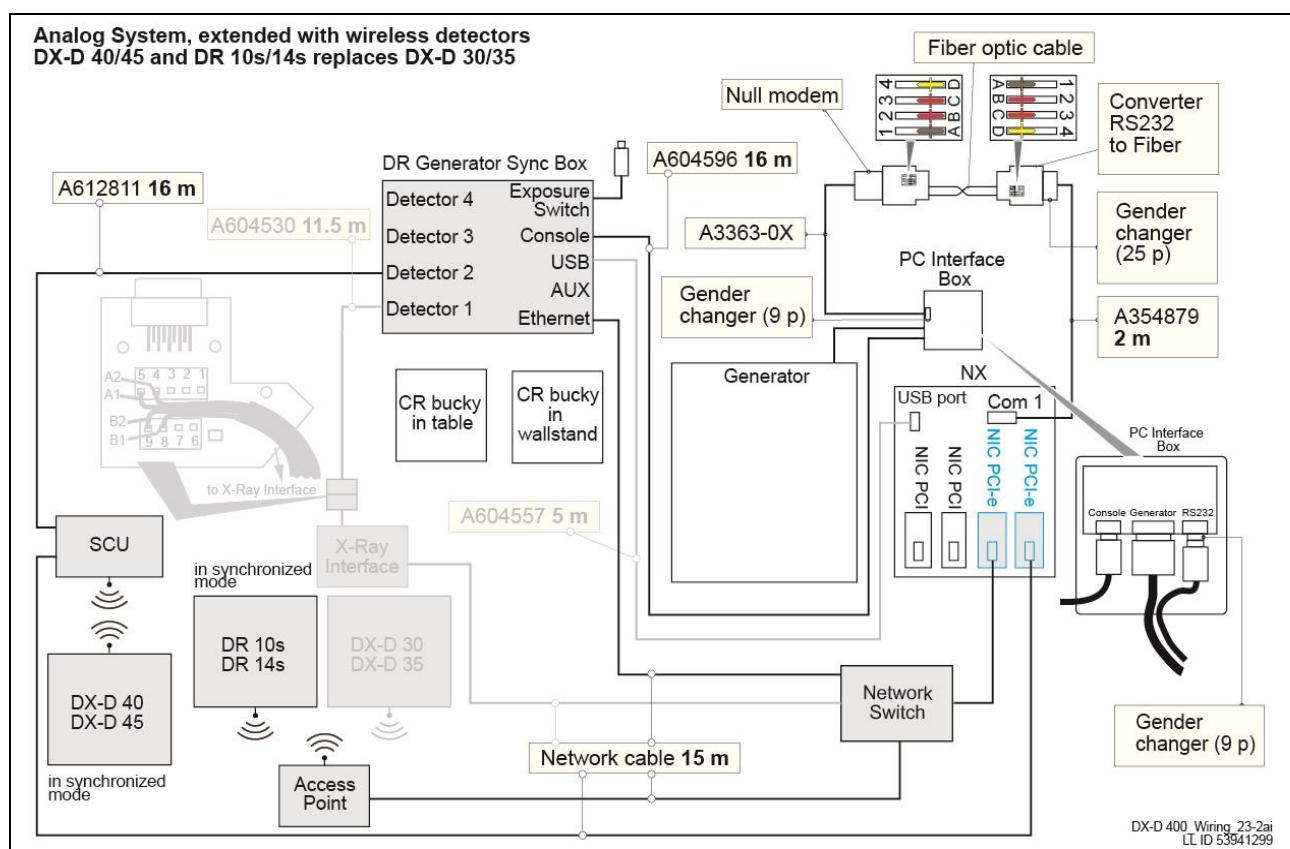
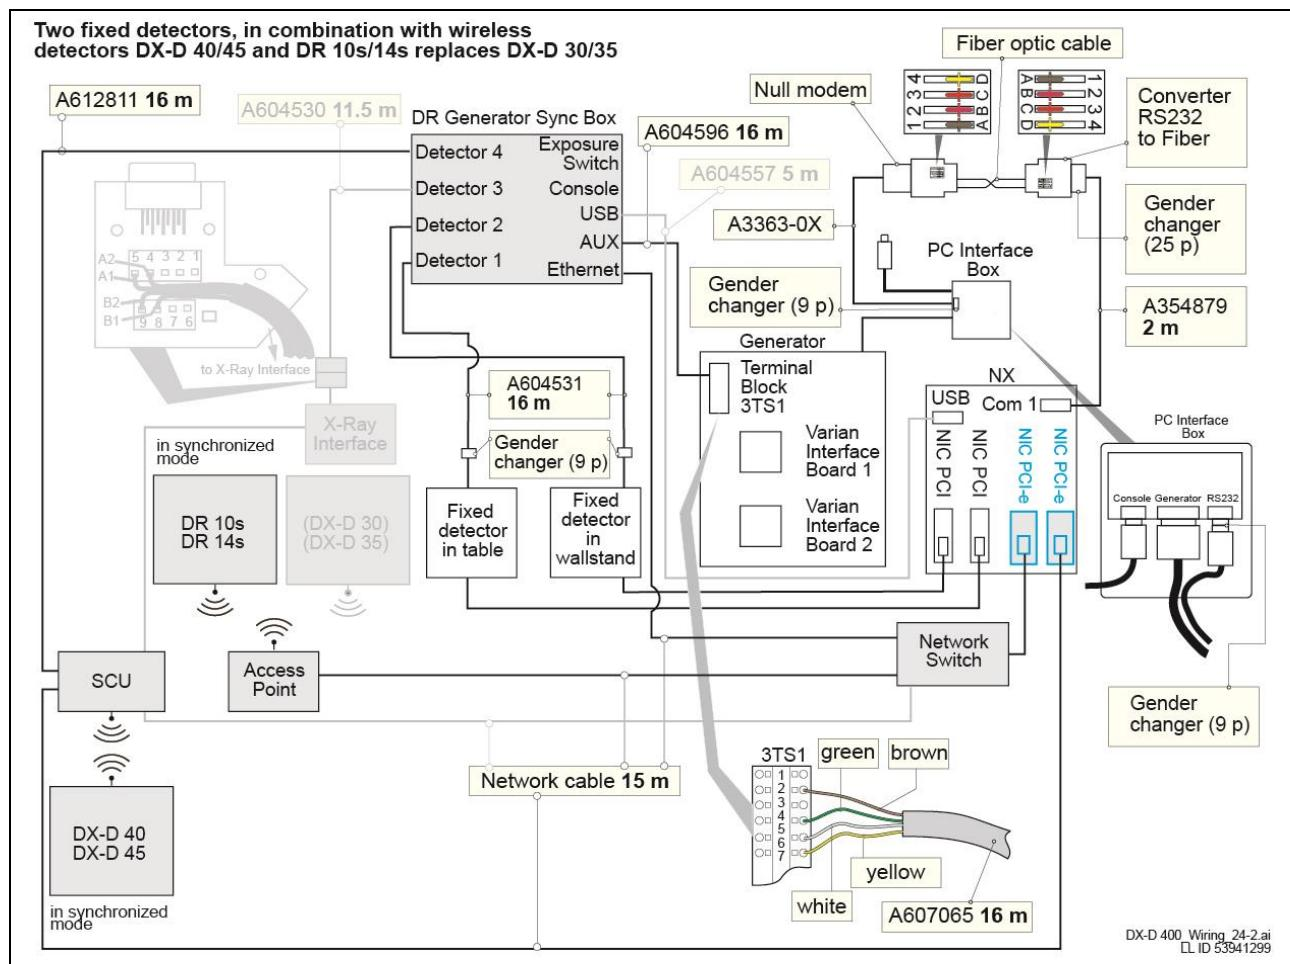

Figure 18: Analog system – DX-D 40/45 & DR 10s/14s detector (replaces DX-D 30/35)
Figure 19: Digital system – DX-D 40/45 & DR 10s/14s detector (replaces DX-D 30/35)
- (1) It is recommended to uninstall the software for DX-D 30/35 and remove the hardware (for example X-Ray Interface Box and respective cables), see light gray indicated items in Figure 18 or Figure 19.
- (6) Install Trixell detector software TRI 2.1 (or later).
- (7) Install the DR 10s/14s detectors in synchronized mode.
- Wiring diagram for analog systems, refer to Figure 18.
- Wiring diagram for digital systems (2 fixed detectors), refer to Figure 19.